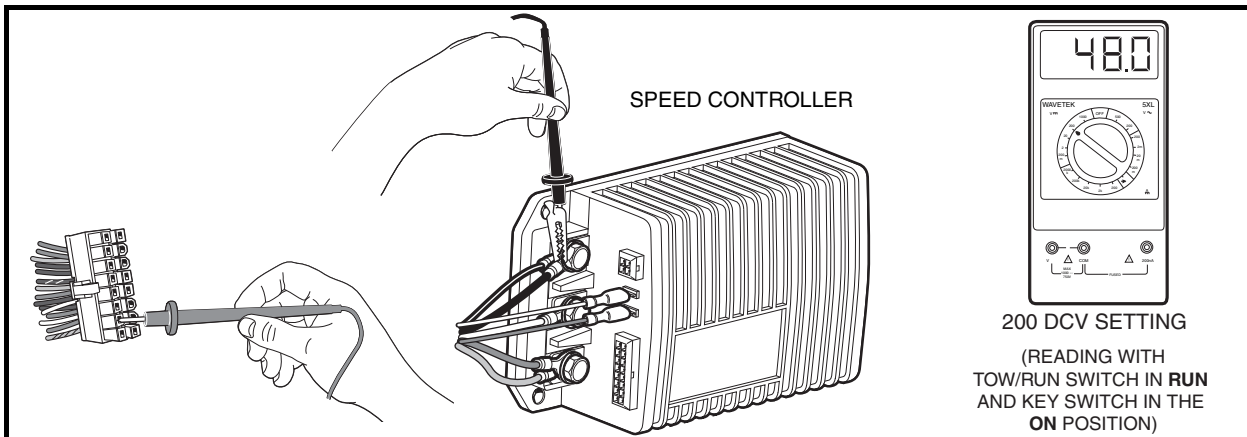

Figure 11-21 Pin 10 Test
4. With a multimeter set for 200 volts DC, insert the red (+) probe of the multimeter into pin 10 (tan wire) of the 16-pin connector. **See following CAUTION.** With an alligator clip, connect the black (–) probe to the B– terminal of the speed controller (**Figure 11-21, Page 11-33**).